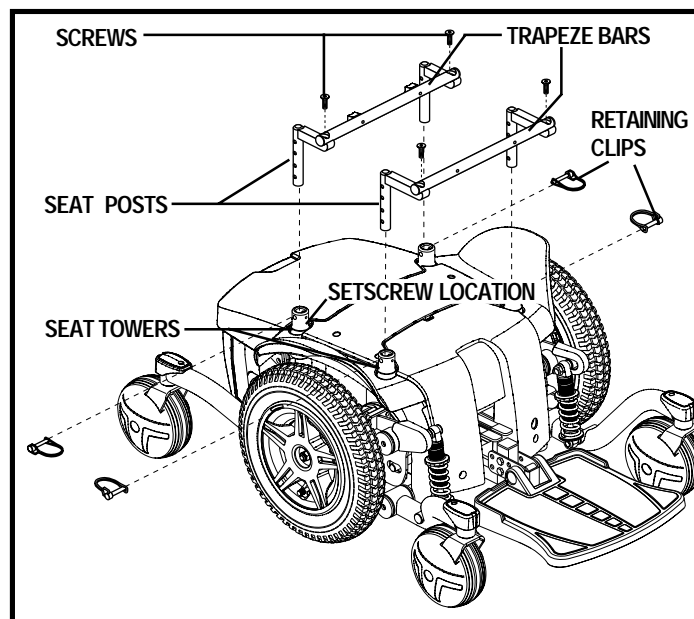

Figure 13. Seat Adjustment - Trapeze Bars
6. Loosen the setscrews on the seat towers. See figure 13.
7. Loosen the screws that attach the trapeze bars to the seat posts. See figure 13.
8. Remove the retaining clips that secure the seat posts to the power base. See figure 13.
13. Tighten the setscrew in each seat tower. See figure 13.